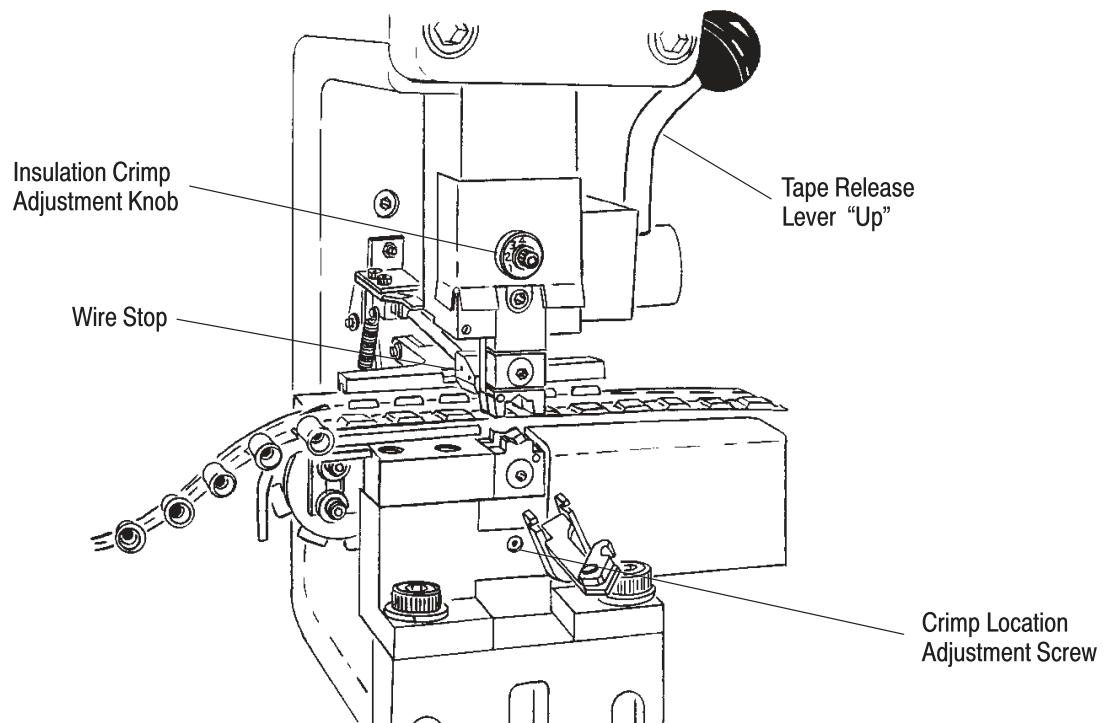

Figure 18
7.2. Insulation Crimp Adjustment (Figure 18)
3. Insert a hex wrench in the crimp-location adjustment screw (Figure 18).